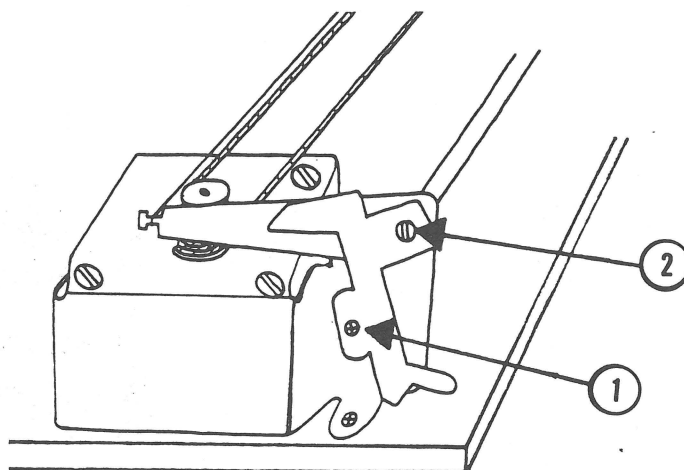

FIGURE 11
Remove the screw (Figure 11, #1) that fastens the support bracket on the left side of the printer. Set the bracket aside.
10. Loosen the screw (Figure 11, #2) on the ribbon wire arm on the left side of the printer. Just give it a few turns to ease the tension on the wire.